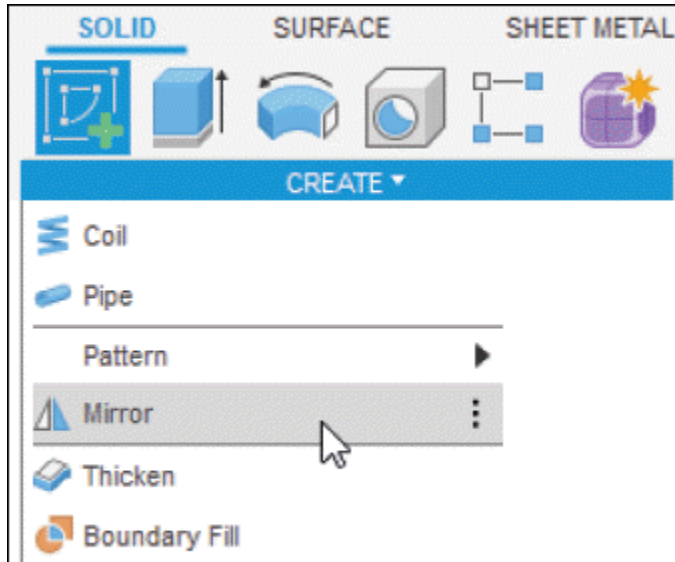
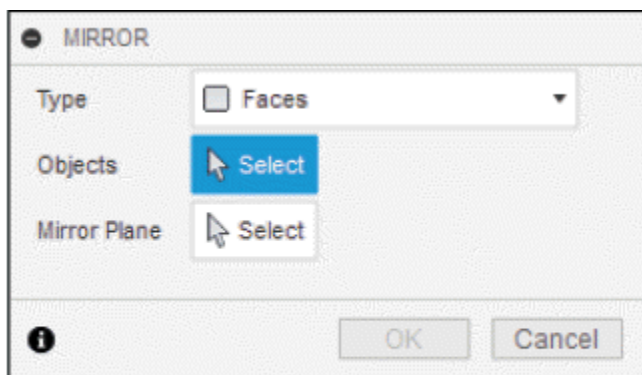

Figure-109. Mirror tool in solid
Figure-110. MIRROR dialog box in solid
- Click on **Mirror** tool of **CREATE** drop-down from **Toolbar**; refer to Figure-109. The **MIRROR** dialog box will be displayed; refer to Figure-110.